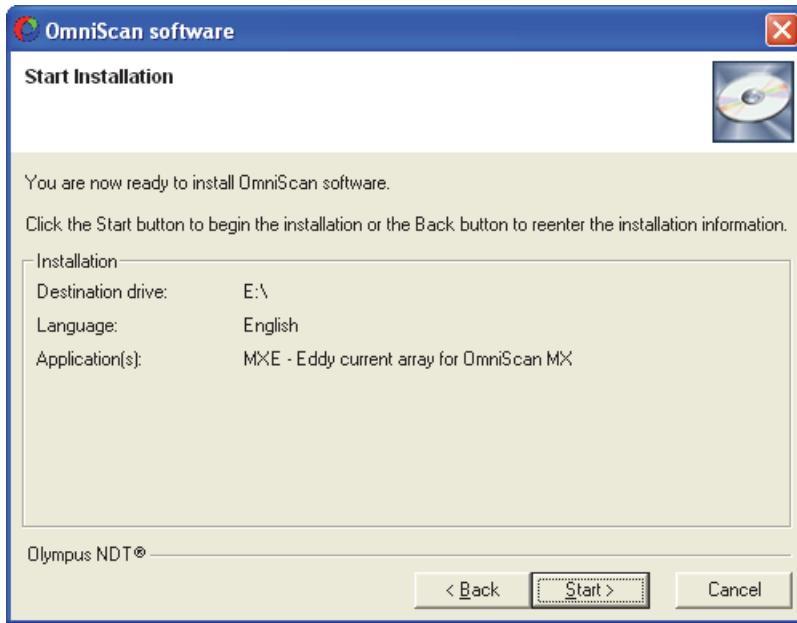

Figure 4-18 The OmniScan software Start Installation dialog box
The **OmniScan software Start Installation** dialog box appears (see Figure 4-18 on page 92).
- In the **OmniScan software Start Installation** dialog box, click **Start** to begin the installation (see Figure 4-18 on page 92).